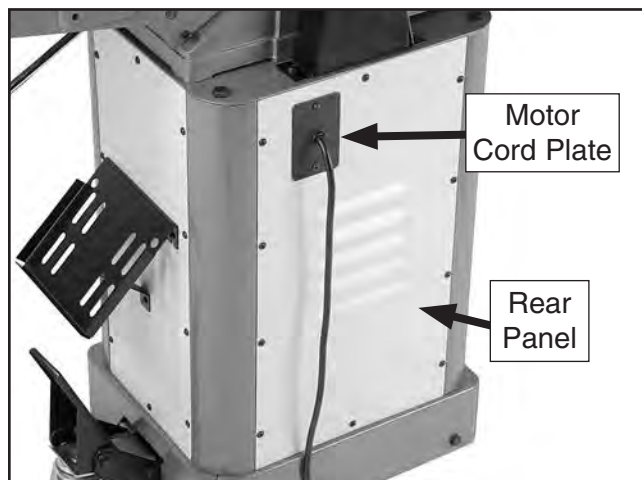

Figure 27. Rear panel and motor cord plate installed.
28. Insert the motor cord and motor cord plate through the rectangular slot on the rear panel, and fasten the plate to the rear panel with (2) #10-24 x 3/8" flange screws. Secure the rear panel to the cabinet with (10) #10-24 x 3/8" flange screws (see **Figure 27**).